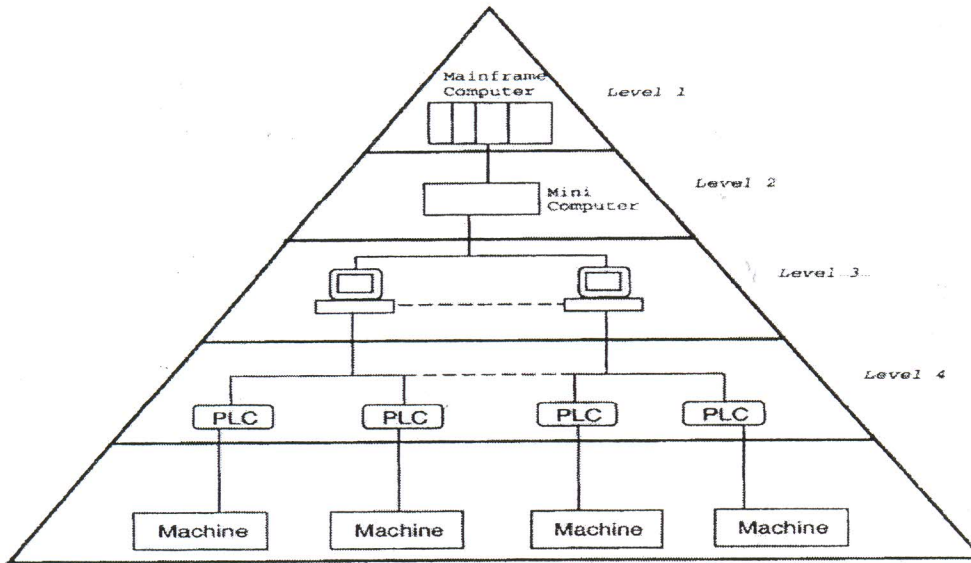

Figure 3: Hierarchy in an Automated Factory
- c) Modify the control circuit in Figure 3 by adding a yellow indicator light and another start button (ST2). The yellow indicator light shows that the power supply is ON and when one of the two start button is pressed (ST1 or ST2), the yellow light will OFF.
(a) Answer all questions depending on the **Figure 3** below